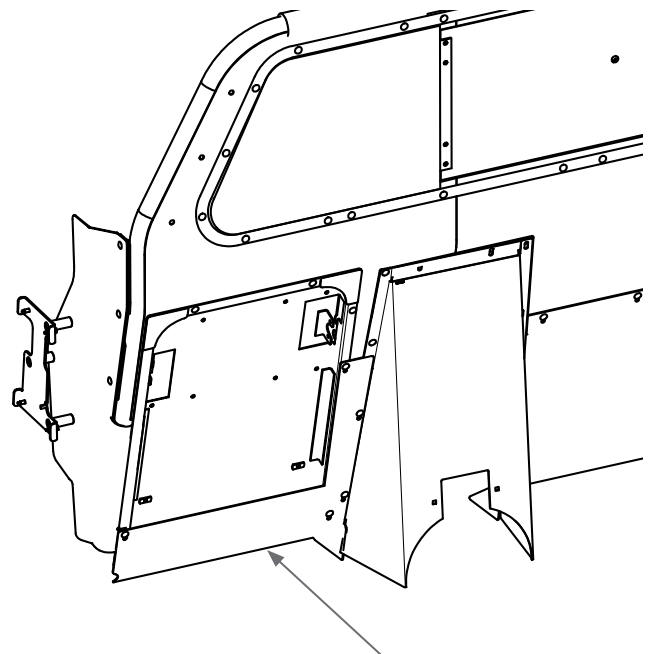

fig. 8
F. Place the 3SP471401 bottom panel against the Viper Shield Housing and Partition. Align the holes in the panel with the Partition and VSHA001 Housing. First install the top bolt on the left edge of the panel through the partition and the housing, securing it with the supplied 1/4-20 x 5/8" (3X36) carriage bolt and whiz nut (3X16Z). Next install the remaining bolts securing the panel to the VSHA001 Housing using whiz nuts to secure the bolts. (See Fig. 8)